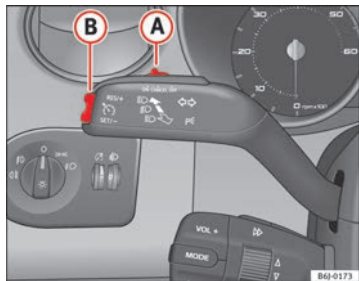

Fig. 121 Turn signal and main beam headlight lever: switch and rocker switch for the cruise control
- Press the lower part **SET** of the rocker switch ⇒ fig. 121 **B** once briefly when you have reached the speed you wish to set.